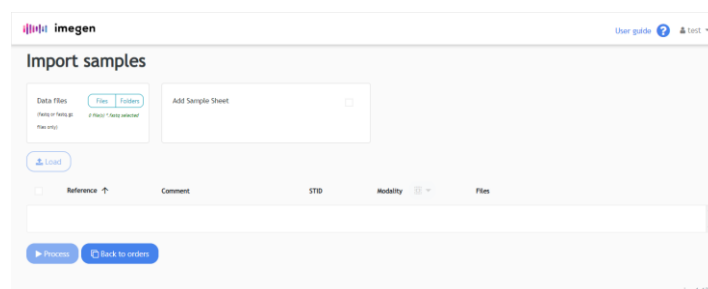

Figure 25. Screen for importing the fastq files and the sample sheet and commence the analysis request.
1. Select the "Import Samples" on the main screen (*Orders* tab) to begin the analysis of the sequenced samples. This will take you to the file import screen (Figure 25). On this screen, the two fastq files associated with each sample must be imported. Optionally, the *SampleSheet* file could be used as well; this file allows simultaneously importing all files from the same sequencing run.